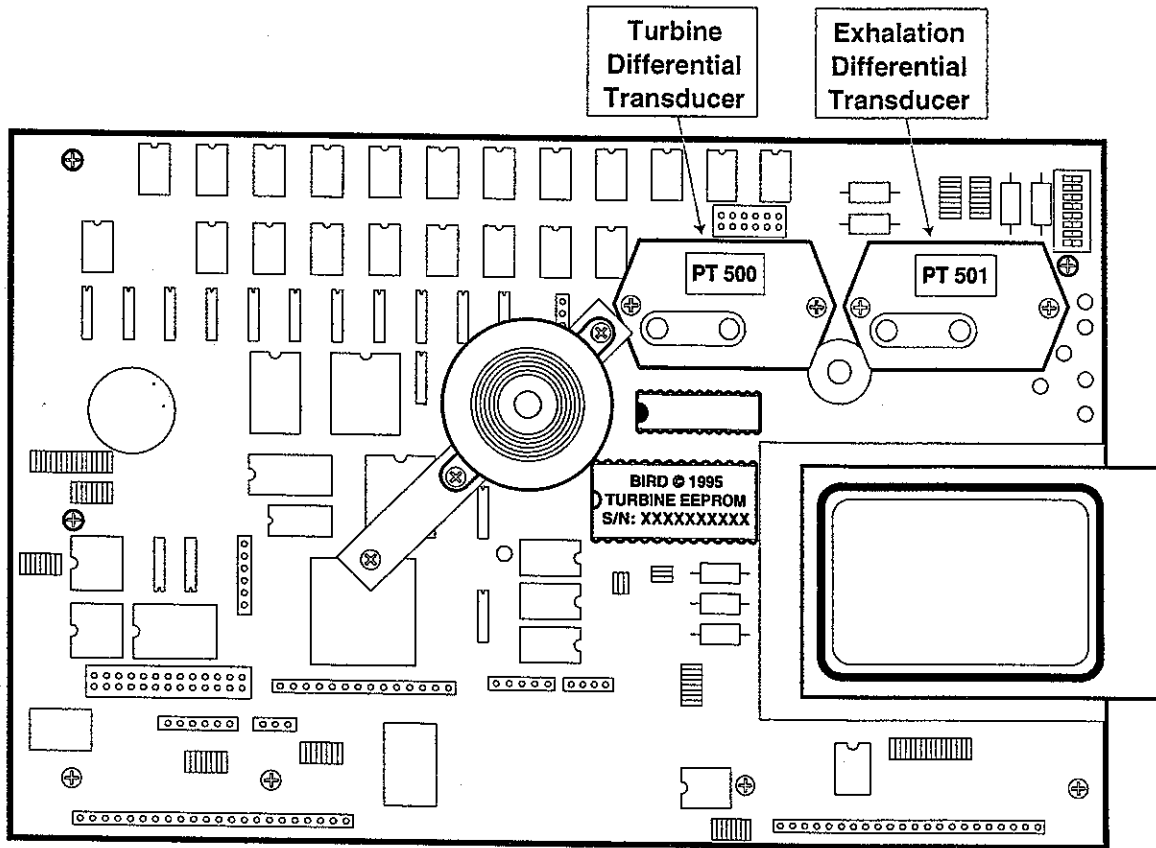

Figure 5-18. Turbine Differential Pressure Transducer and Exhalation Pressure Differential Transducer
- 2 Referring to Figure 5-18, label or note the position of the pneumatic connections to the pressure transducer and remove them.
- 3 Remove the two (2) screws retaining the pressure transducer to the Main PCBA.